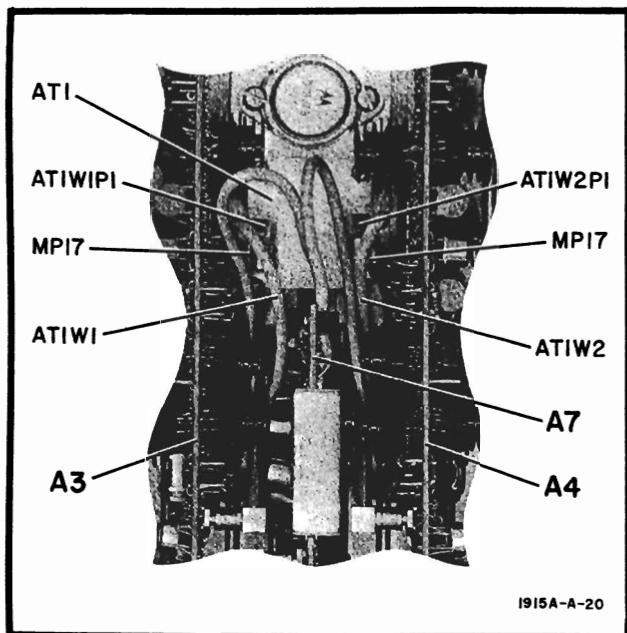

Figure 3-3. Internal Termination Cable Storage
3-23. POSITIVE HIGH-Z SOURCE CONVERSION. The positive output termination (AT1R1A) is connected to the positive circuit board (A4) through coaxial cable AT1W1 (see Figure 3-3) to snap-on jack A4J2 located on the back side of circuit board A4 (see Figure 8-19 for the location of A4J2). To convert the positive output circuit board to a high-Z source, proceed as follows:
- g. Store plug AT1W1P1 (on end of coaxial cable AT1W1) by snapping barrel portion of plug into fuse clip MP17 mounted on top of internal termination assembly AT1. (Figure 3-3 shows the plug in the stored position.)
3-25. NEGATIVE HIGH-Z SOURCE CONVERSION. The negative output termination (AT1R1B) is connected similar to the positive output termination (AT1R1A). Negative output termination AT1R1B is connected to the negative output circuit board (A3) through coaxial cable AT1W2 (see Figure 3-3) to snap-on jack A3J2 located on
- g. Store plug AT1W2P1 (on end of coaxial cable AT1W2) by snapping barrel portion of plug into fuse clip MP17 mounted on top of internal termination assembly AT1. (Figure 3-3 shows the plug in the stored position.)